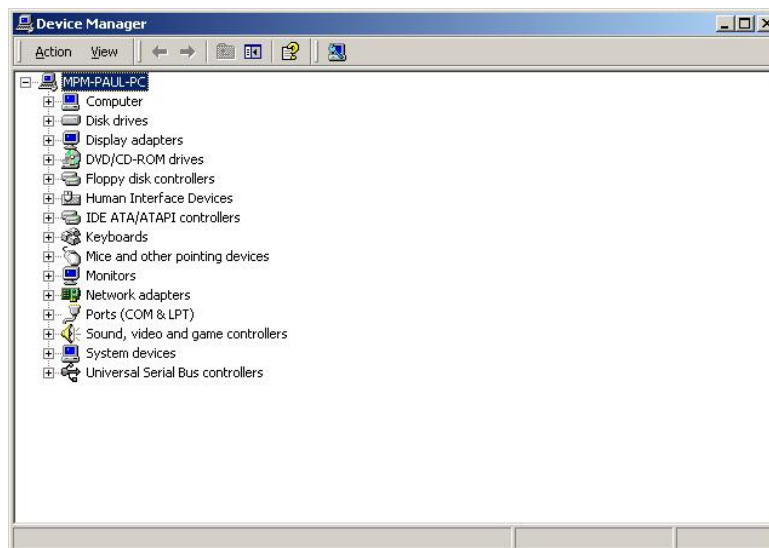

Figure 7-15: Device Manager List
Step 4: A list of system hardware devices appears (Figure 7-15).